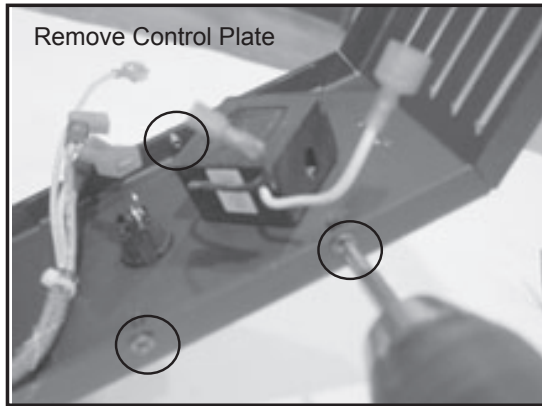

Figure 43.1
5. Remove the control plate by removing the three Phillips head screws. Remove the blank plate on the left side of the housing in the same manner. Swap the locations of the control plate and blank plate and re-install all of the fasteners. **Figure 43.1**
10. See **Figure 43.1** as a reference to connect the remaining wires as shown.